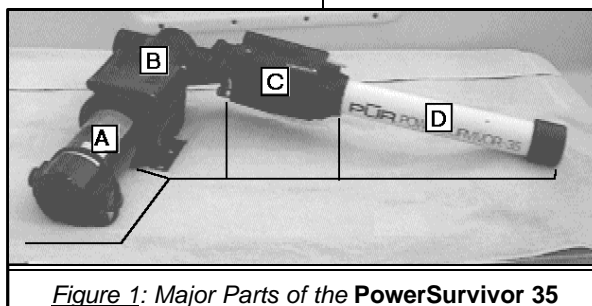

Figure 1: Major Parts of the **PowerSurvivor 35**
All models, despite different specific configurations, are comprised of the same basic functional units. Using the PÜR *PowerSurvivor 35* as an example (see *Figure 1*), the major components of any system are (A) an electric motor, (B) a drive (gear-box) assembly, (C) a high pressure hydraulic pump, (D) an RO membrane and an intake seawater prefilter unit.